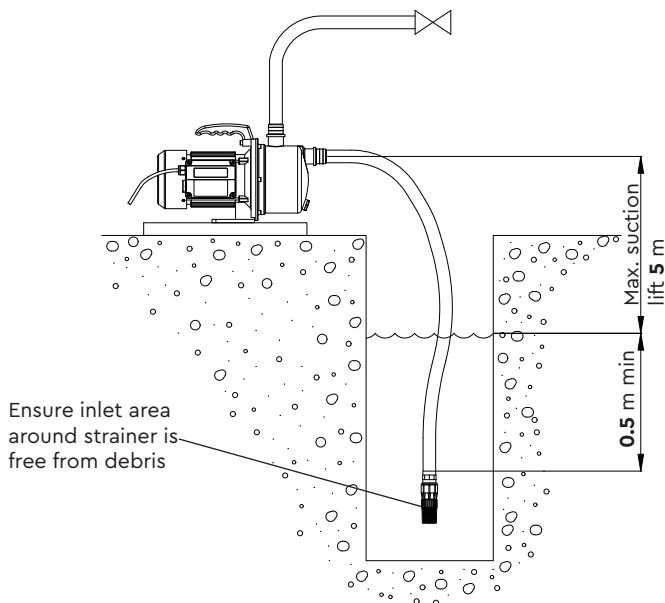

Fig. 3
- 2.25 **Self Priming:** Jet 55–45 and 80–45 pumps are capable of self priming the suction hose assembly, providing a footvalve and strainer (not supplied) is always used for this type of installation. The Jet pump can be used in a suctionlift installation providing the height of lift is no greater than maximum permitted (Fig. 3).
- 2.26 **Footvalve/strainer:** It is important that the optional footvalve and strainer is always used for suction lift installations. This pump is capable of a maximum suction lift of 5 m in this case only, an NRV in the footvalve is permissible (Fig. 3), Stuart Pt. No 26704.